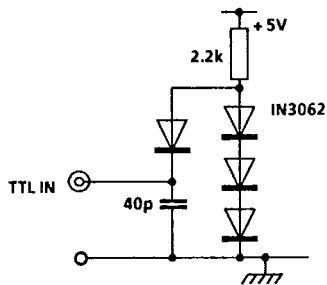

Fig.7 Equivalent TTL test load
- See Fig.7 for equivalent TTL load.